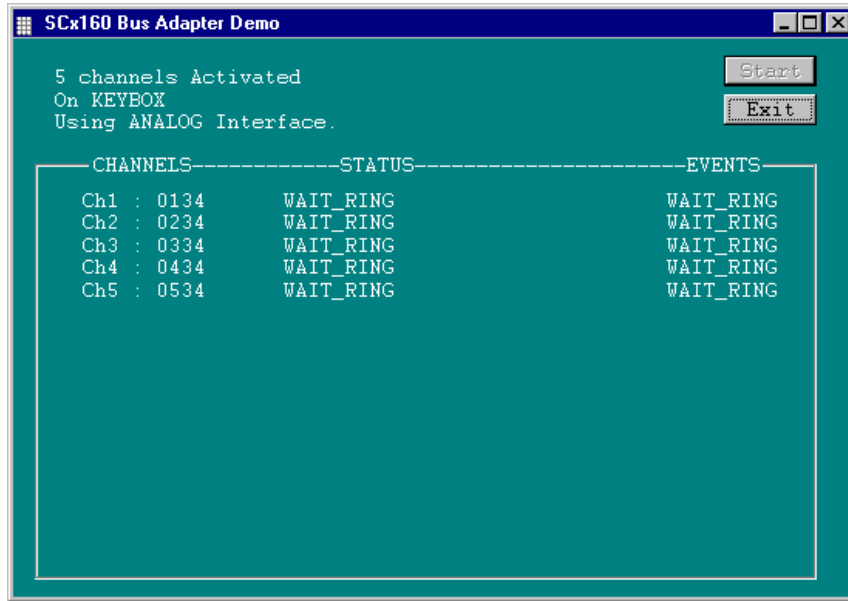

Figure 19. Starting the Client Node
- Repeat steps 1 - 3 for the client node. At the client node, activate the channels by clicking on the **Start** button. Information, such as shown in *Figure 19. Starting the Client Node*, is displayed as the channels in the node are activated.